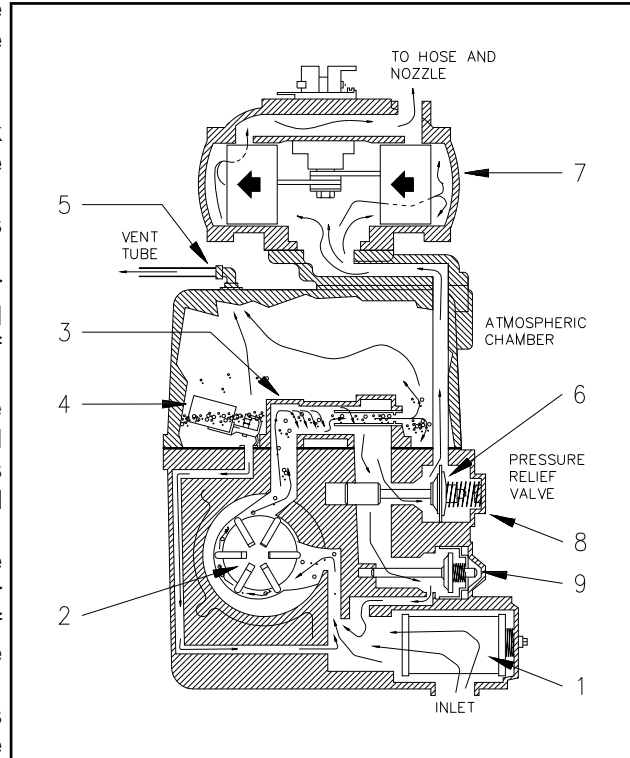

Figure 1 - Type 75 Schematic Flow Diagram
1. The fuel is drawn from the storage tank through the strainer screen or filter (1). See Figure 1.
2. The rotary vane pumping unit (2) pressurizes the fluid.
3. Fuel enters the centrifugal air separator assembly (3). Any air that is present is forced out the air tube along with a small amount of liquid into the atmospheric chamber.
4. When the liquid level in the chamber lifts the float and valve assembly (4), the liquid collected in the atmospheric chamber is returned to the pump intake.
5. Air free fuel leaving the air separator opens the control valve (6) and is pumped into the meter (7). The control valve includes a built-in relief valve (8) which relieves excess pressure caused by hot weather expansion.
7. Whenever the nozzle is not fully opened, some liquid is relieved into the pump intake through the bypass valve (9).